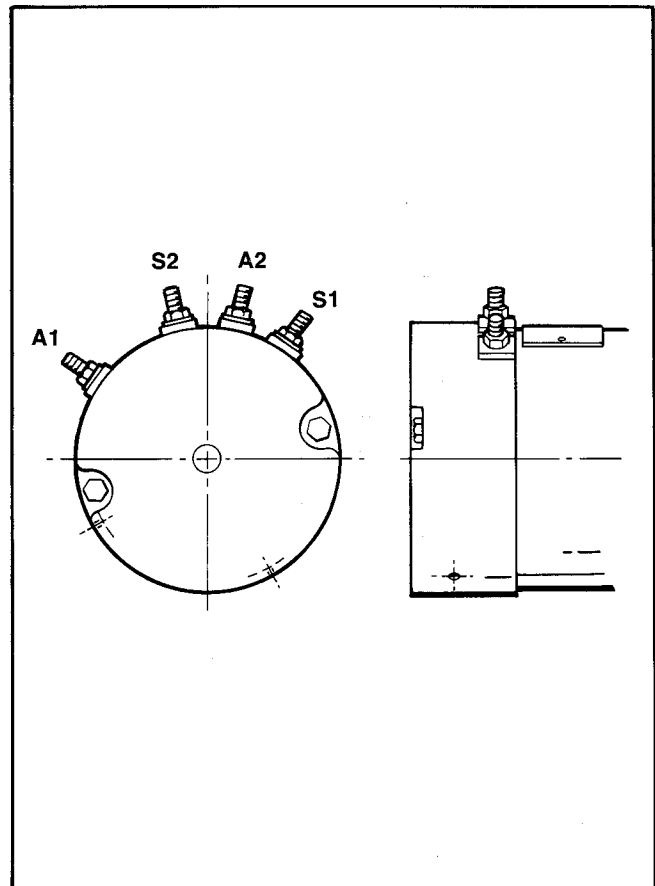

Figure 109 – Motor Terminal Identification
- Slide armature (4) with ball bearing into end frame, and install bearing palte retaining screws (9).
- Lay motor on side and install commutator end mounting screws (7) and tighten to 90-110 in.-lbs.
- Reinstall motor to drive end cover (21), position aligning marks, and tap lightly with soft hammer to seat frame (3) on to cover. Replace mounting screws (22) and tighten to 90-110 in.-lbs.
- Reconnect cables A1, A2, S1, and S2 to motor and then reconnect battery positive and negative cables, Figure 109.